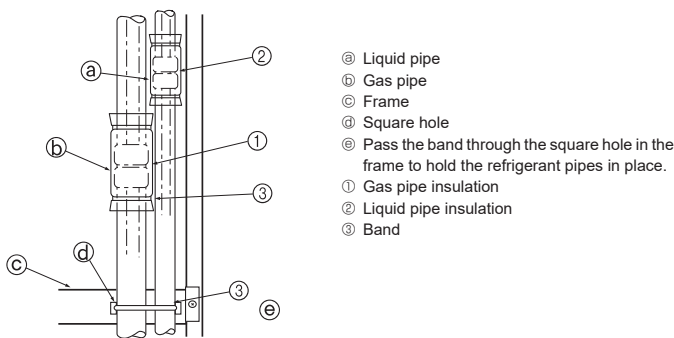

Fig. 4-5
Insulate flare joints ① and ② of the gas and refrigerant pipes completely. If any part of the joints are exposed, condensation can drip down. (Fig. 4-5)
- Fasten the gas pipe insulation ① and the liquid pipe insulation ② at both ends so that they will not slip and align with one another.
- After the insulation is installed, use a band ③ to fasten the refrigerant pipe to the frame (below the pipe joint section). This will prevent the refrigerant pipe from lifting up off of the frame. (When the refrigerant pipe is off of the frame, the grille cannot be installed.)